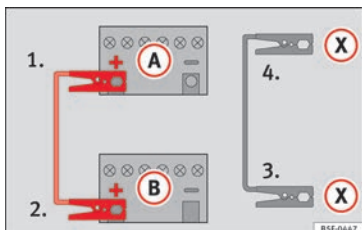

Fig. 64 Diagram of connections for vehicles with Start-Stop system.
- *For vehicles with Start-Stop system:* connect one end of the *black* jump lead (X) to a suitable ground terminal, to a solid piece of metal in the engine block, or to the engine block itself » » Fig. 64.
5. Connect the other end of the *black* jump lead (X) to a solid metal component bolted to the engine block or to the engine block itself of the vehicle with the flat battery. Do not connect it to a point near the battery (A).